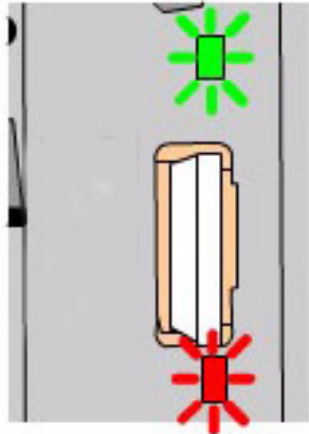

Figure 1 Inserting SIM Card
2. When the SIM is inserted, the status will be indicated by an LED display as shown in Figure 1. The LEDs are located on the SBC and are visible through small square holes in the frame above CR12 (**Green**) and below CR11 (**Red**) the SIM socket. The following list describes the LED display status: